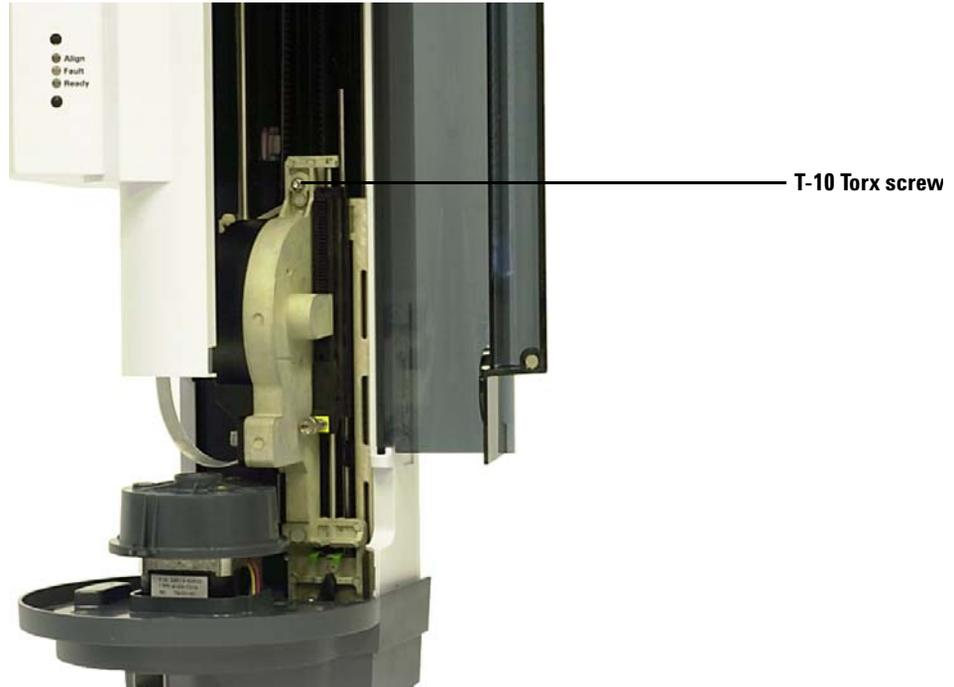

Figure 103 Installing the T-10 Torx screw at the top of the syringe carrier assembly
- 14** Completely tighten the T-10 Torx screw at the top of the syringe carrier assembly (Figure 103).